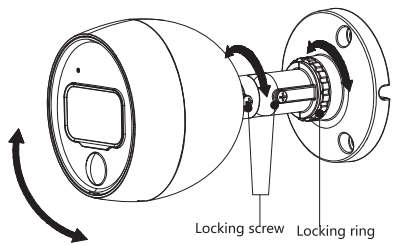

Figure 4-2
- Step 1** Find the mounting template sticker from the accessory pack and stick it to the mounting surface⑤. Drill screw holes (and the cable outlet hole if it needs to go through the mounting surface) on the mounting surface as indicated on the mounting template.
- For masonry mounting surface, insert expansion bolts④ from the accessory pack in the screw holes.
- Step 3** Adjust the location of the bracket③ according to cable outlet requirement (top out or side out), then pull the cable out through mounting surface or the side cable tray. Align the screw holes on the bracket③ to those on the mounting surface, then put in and fasten the supplied self-tapping screws② to attach the device① to the mounting surface.
- Step 5** Adjust the view of the camera, aim the lens to the ideal angle, see Figure 4-2.